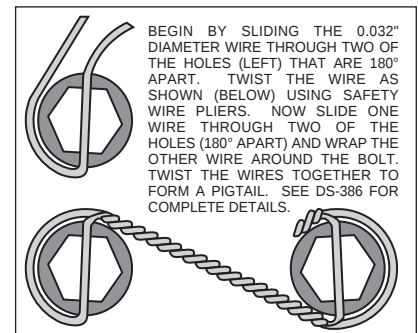
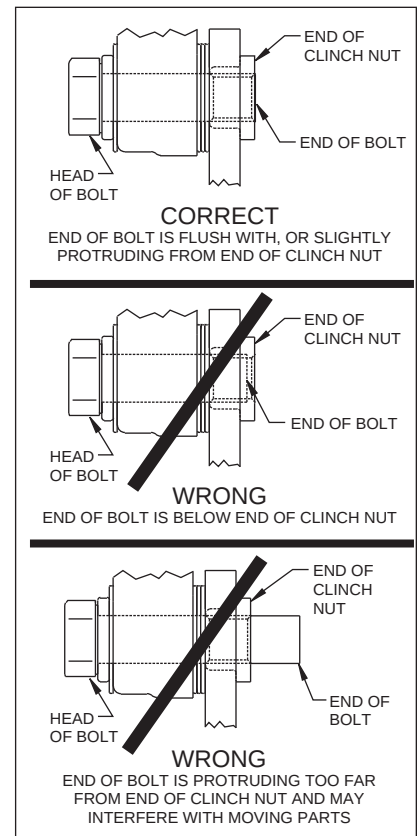

Figure 4. Safety Wire Diagram
Figure 5.
Assembly Instructions (numbers in parenthesis refer to the part list/diagram on the preceding page): **CAUTION:** All mounting bolts must fully engage insert nuts. Be sure to check that all bolts are either flush or protruding through flanged side of insert nut after shimming, Figure 5.
•With the slot pointing upward and the mounting ears pointing towards the rear of the vehicle, install the caliper mounting bracket (1) to the housing flange using the stock Original Equipment Manufacturer (OEM) bolts and nuts. Stock OEM hex nuts that retain the bracket (1) should be on the wheel side of the bracket. Apply red *Loctite*® 271 to the stock OEM bolt threads and torque to OEM specifications. **NOTE:** Some brackets act as the bearing retainers, while others help locate the bearing in the axle housing flange. If the stock bearing plates are still on the axle, the caliper mounting brackets (1) should be located between the axle housing flange and the bearing retainer plate. Make sure the heads of the caliper mounting bracket insert nuts are FACING OUTWARD TOWARDS THE WHEEL.
•Bolt the hat (2) to the rotor (3) using washers (4) and bolts (5). Torque bolts (5) to 180 in-lb. Safety wire bolts (5) using standard 0.032 inch diameter stainless steel safety wire as shown in Figure 4. Please refer to Wilwood's data sheet DS-386 (available at www.wilwood.com/Pdf/DataSheets/ds386.pdf) for complete safety wire installation instructions.
•Align the correct hole pattern in the hat (2) with the stud pattern on the axle flange. **NOTE:** Some OEM and after market axles come with stud sizes larger than 0.50" diameter. Verify stud size and have a qualified machine shop drill the hats to the correct size. Slide the hat/rotor assembly (2 and 3) over the wheel studs and against the axle flange face.
•**NOTE:** Please reference the caution statement at the beginning of the assembly instructions. WITH THE BLEED SCREWS POINTING UP, mount the caliper (6) over the rotor (3) and onto the caliper mounting bracket (1) using washers (7) and mounting bolts (8). View the rotor through the top opening of the caliper. The rotor should be aligned in the center of the caliper. If not, adjust the caliper by using 0.032 inch shim washers (9), placing them between the caliper mounting bracket (1) and the caliper (6). Add as many shim washers (9) as necessary to achieve the correct alignment. **NOTE:** The end of the bolt must be flush with or slightly protruding from the head of the clinch nut. See Figure 5. Place spare shims (9) between washer and caliper mounting ear to achieve the proper mounting fastener configuration. Always use the same amount of shims on both the top and bottom caliper mounting bolts (8). Apply red *Loctite*® 271 to the mounting bolt threads (8), torque bolts to 30 ft-lb. Safety wire the caliper mounting bolts (8).
•Position the Wilwood disc brake pads (10) into the caliper (6) and fasten with cotter pin (11). Steel backing plate side of brake pad should face the caliper pistons.